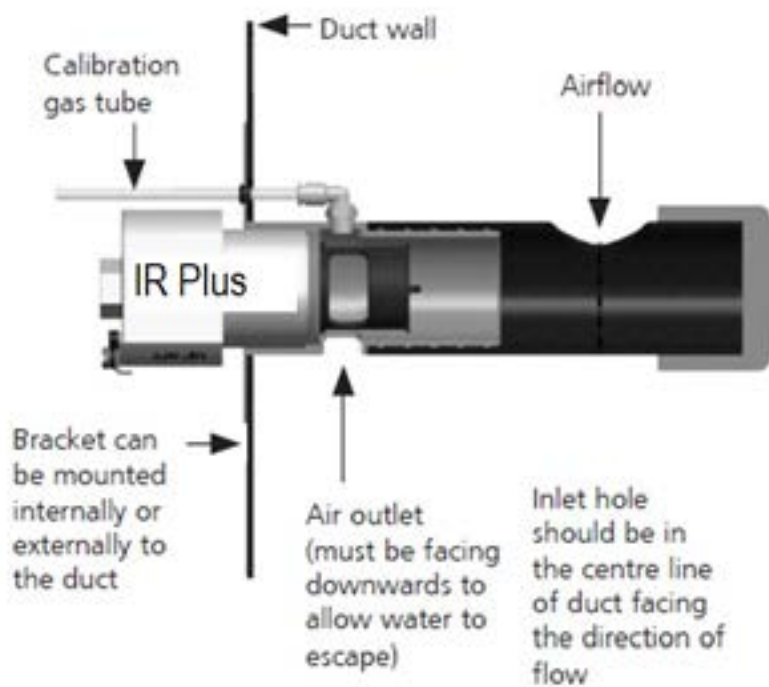

Figure 13: Duct Mount Illustration
4. Use a centre punch to mark up the duct ready for drilling the required holes as indicated on Figure 13. Make sure that the centre line is positioned equidistant from the two edges of the duct.